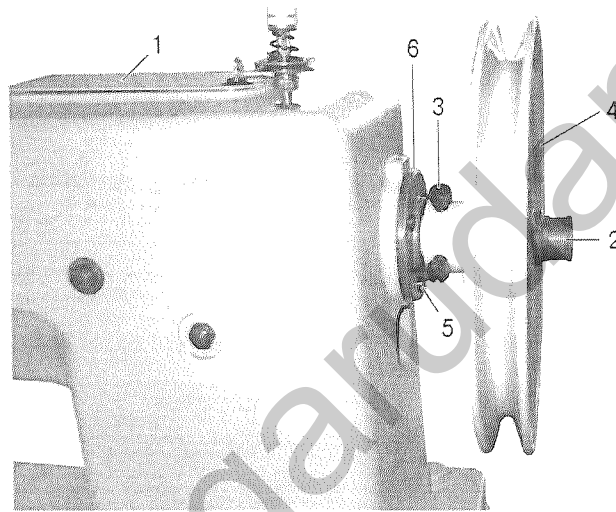

Fig.37
B. Replacement of the connection belt when damaged. ( Figs. 37 & 38 )